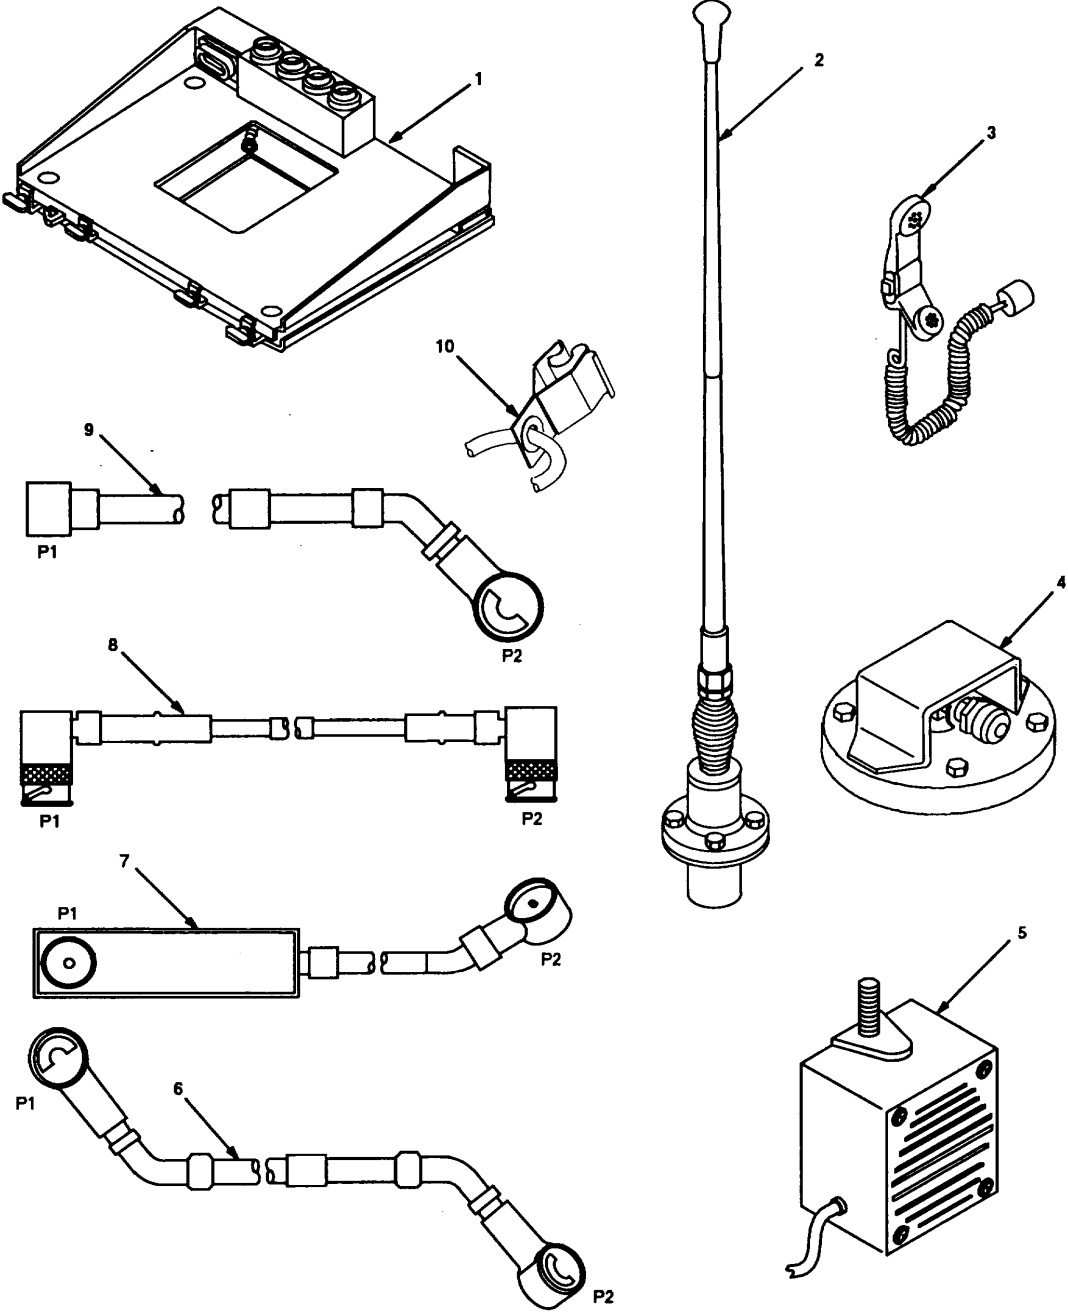
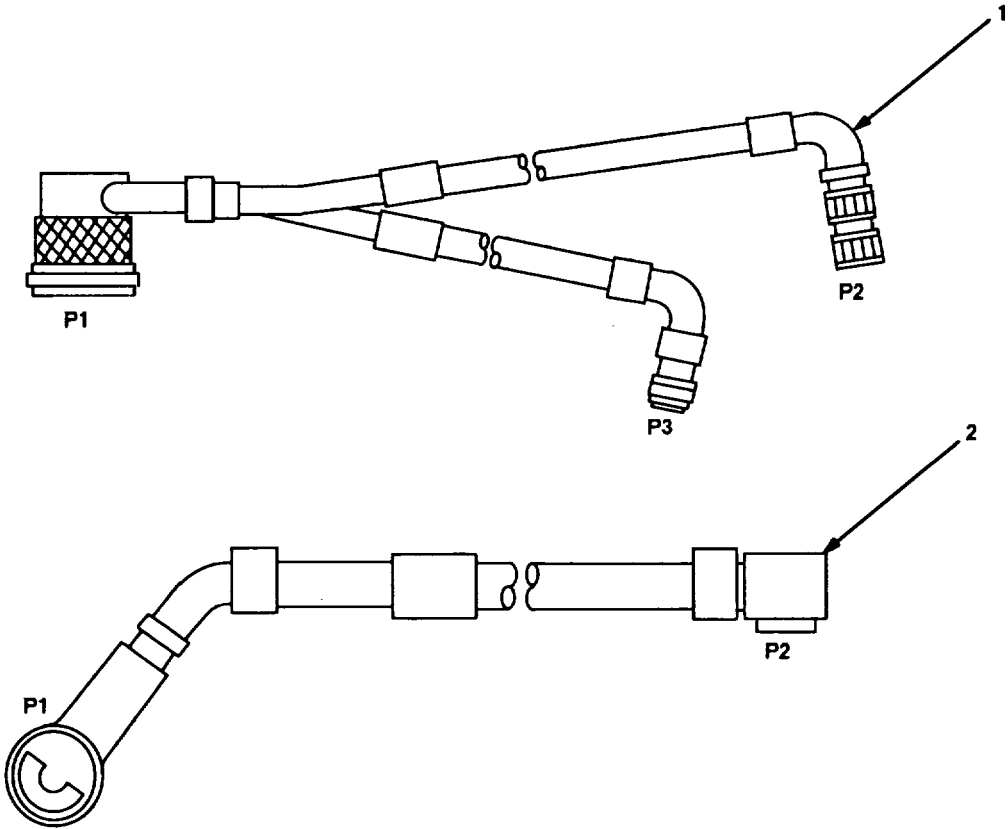

Figure 4-1. MK Illustrated Parts list
Figure 4-2. TSEC/KY-57 Illustrated Part List
**4.3.1 Items Supplied in MK and/or Required for Installation.** Use Table 4-1 and figure 4-1 to identify and inventory MK parts supplied to install Radio Set AN/VRC-87/88/90 Series. Refer to Table 4-2 and figure 4-2 to identify additional items required to install when using RT-1439/VRC.